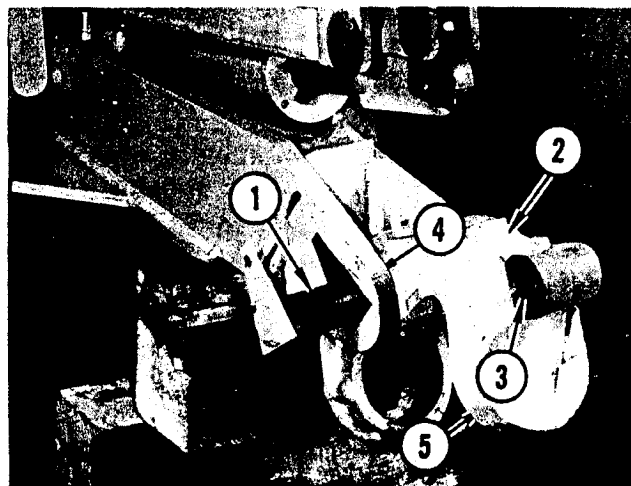

FIGURE 6. SPINDLE FORK REMOVAL
Refer to Figure 6. Remove pivot pin from vibrator bar and top of fork. Remove locking capscrew from pin weldment and remove pivot pin (1). Remove fork (2). Remove bushing (3) from fork. Remove bushing (4) from fork. Remove bearing cup (5) from inside top bore of fork.